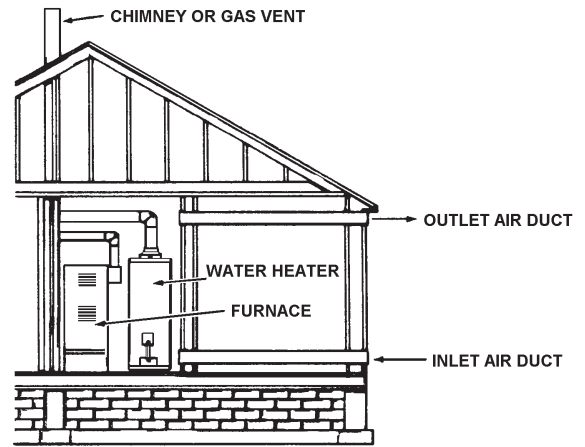

FIGURE 14.
- When communicating with the outdoors through horizontal ducts, each opening should have a minimum free area of 1 square inch per 2,000 BTU per hour (11 cm²/kW) of total input rating of all equipment in the enclosure, see Figure 14.
- When ducts are used, they should be of the same cross-sectional area as the free area of the openings to which they connect. The minimum short side dimension of rectangular air ducts should not be less than 3 inches (76.2 mm), see Figure 14.